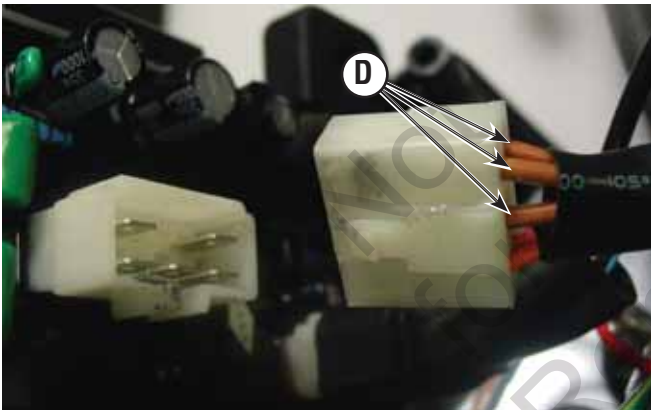

Figure 63
4. Disconnect the main winding connector and measure resistance across the windings (D, Figure 63).